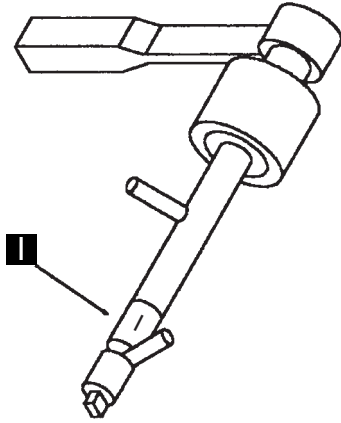

Figure 4-95. Actuation Tool Installation
- Before using the TCM actuation tool, ensure that the detent pin is in the **Installation position I** (as shown in Figure 4-95).